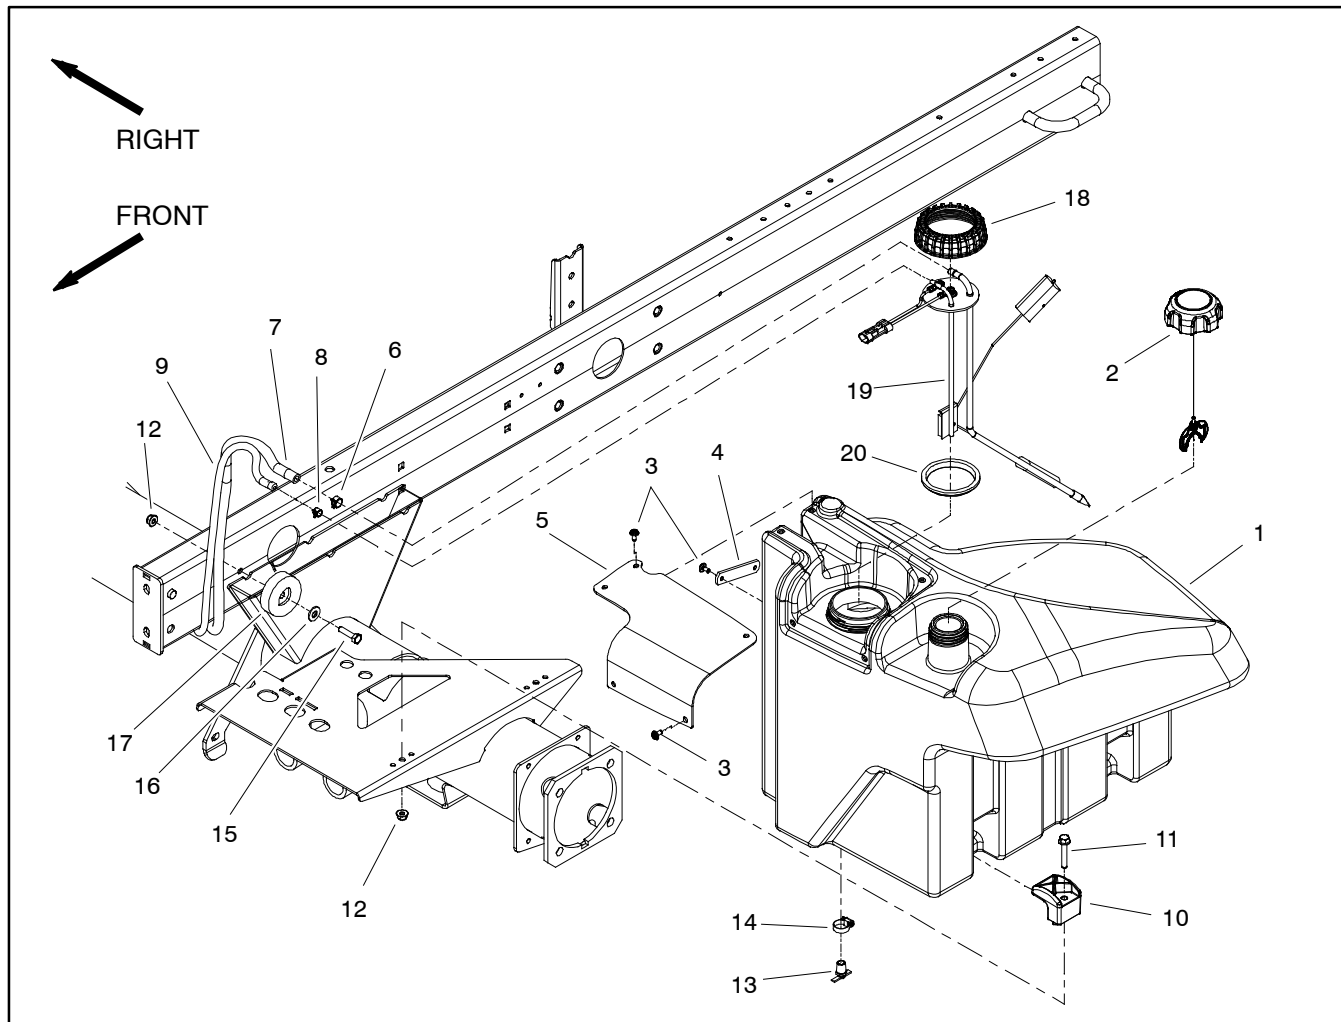

Figure 6
Fuel Tank Removal (Fig. 6)
5. Loosen hose clamps and carefully disconnect supply (item 7) and return (item 9) fuel hoses from fittings on the top of the fuel sender.
6. Remove fuel tank using Figure 6 as a guide.
Fuel Tank Installation (Fig. 6)
1. Install fuel tank to frame using Figure 6 as a guide. Secure fuel hoses with cable ties as noted during fuel tank removal.